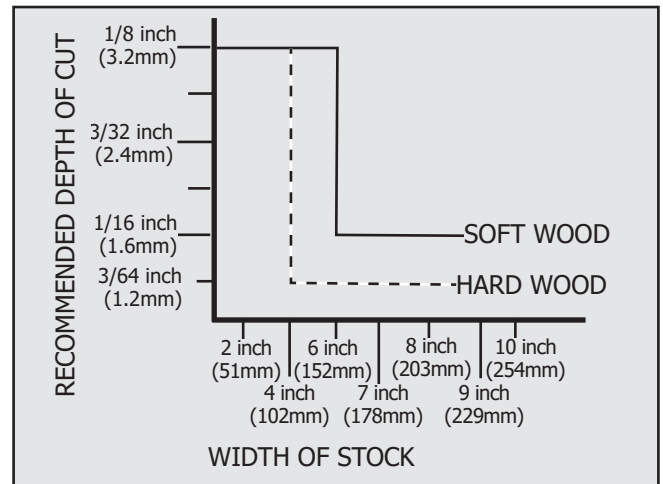

FIGURE 16
See Figure 16.
**NOTE: ALWAYS** plane in the direction of the grain. Support the workpiece adequately at all times. Planing material less than 3/4 inch wide is not recommended. If you must plane narrow material, group several pieces together and plane them as one wide workpiece whenever possible. The maximum depth of cut your planer can take in one pass is 1/8 inch (soft wood). **NEVER** attempt to modify your planer to take a deeper cut. Follow the recommended depth/width of cut guidelines shown in Figure 16 for best results.